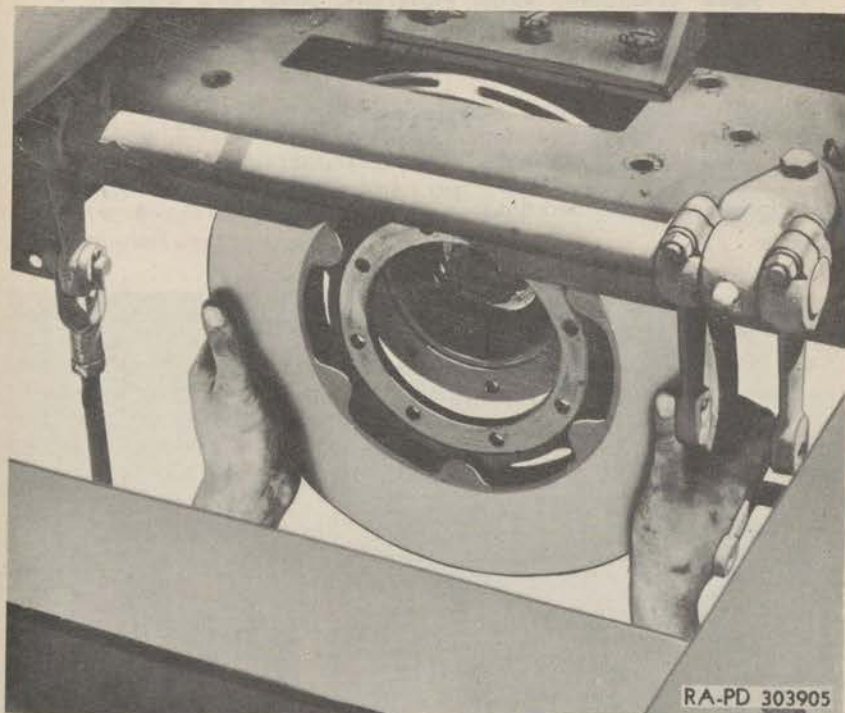

Figure 135—Removing Brake Disk
(4) **REMOVE BRAKE DISK.** Remove the brake disk from the transfer companion flange (fig. 135).